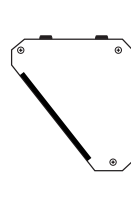

FIGURE 3: High on a wall
- **High on a wall**—The station panel is installed in the angled face and turned upside down. The blank four-gang panel is inverted and mounted on the wall using the keyhole slots on the blank four-gang panel (Figure 3 below).